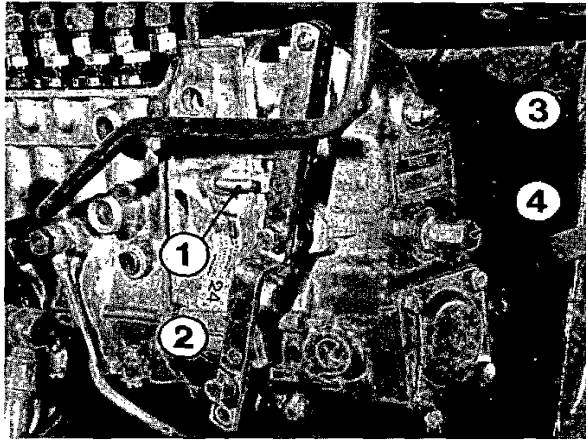
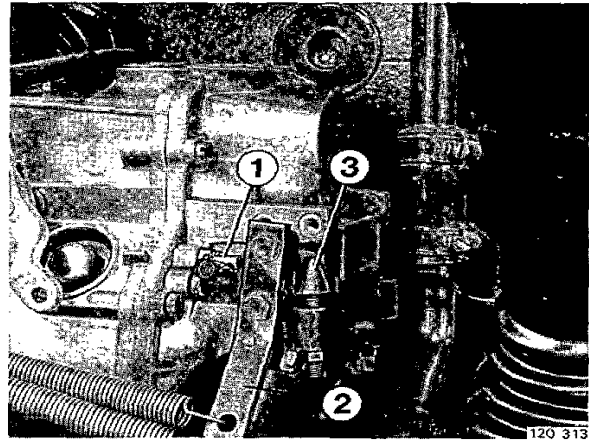

Fig. 137. Setting the speed, RSV governor
Fig. 138. Setting the speed, RQV governor
3. Adjust the speed, if necessary, by screwing the adjuster screw (3, fig. 137 or 3 fig. 138) out or in.
1. Remove the dome nut (4, fig. 137) and release the lock nut as well as turn the damping bolt carefully clockwise while observing the speed.
3. Check the engine speed using a rev. counter. Adjust the stop 1, fig. 137 or 1, fig. 138, if necessary, to obtain the correct engine speed. For engine speed, see "Data and settings" in the SB binder.